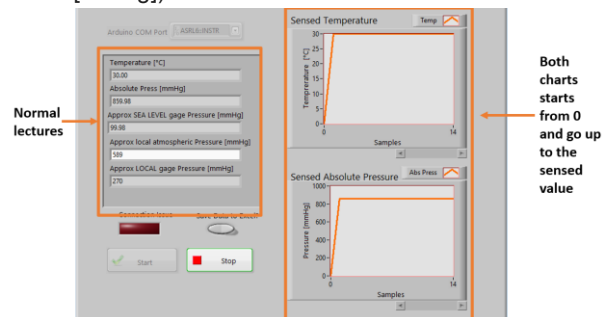

Figure 20. Calibrated IntraSense KIT VI working well.
- c. The third case is when the sensor has no issues. For the example in Figure 20, the sensor was subjected to controlled conditions (temperature 30 [°C] and pressure 860 [mmHg]).